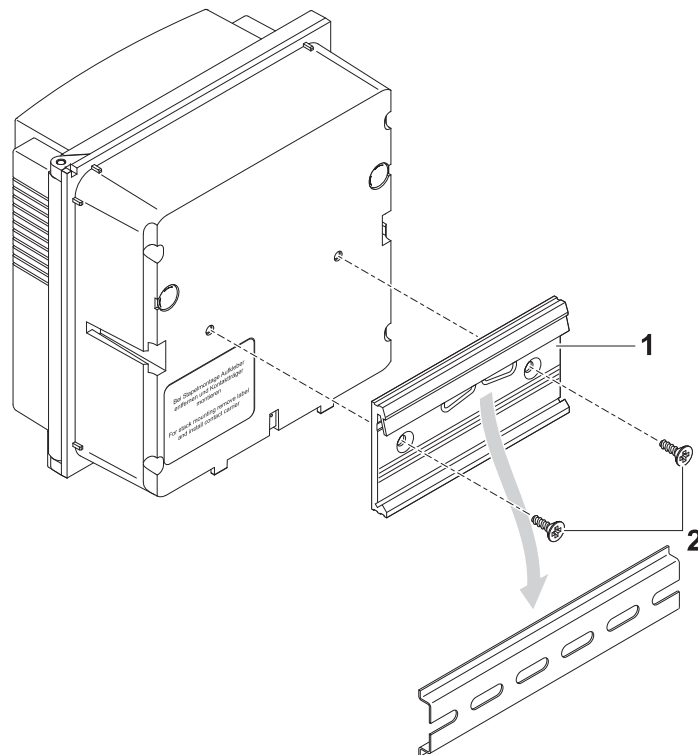

Fig. 3-7 Mounting the DIQ/S 181 on a top hat rail
1	Screw the clamping assembly (pos. 1 in Fig. 3-7) on the back of the universal transmitter with the two plastic tapping screws (pos. 2).